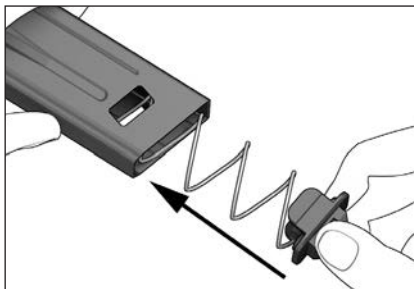

Figure 33
2. Insert the follower and magazine spring into the magazine housing as depicted in Figure 33.